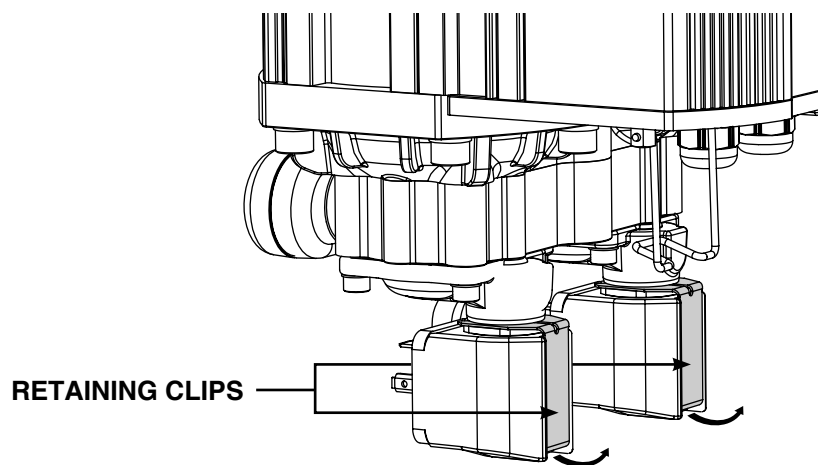

Figure 2.
3. Remove the valve solenoids by unclipping the retaining clips and sliding the solenoids down and free from the valve stems. (See Figures 2 & 3)